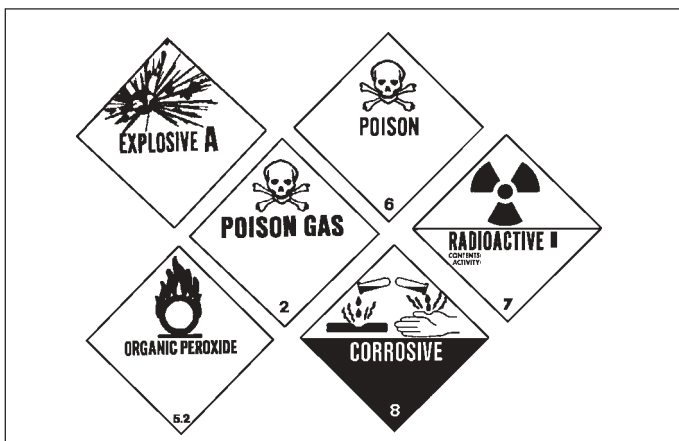

Figure 2-16
- The shipping paper describes the hazardous materials being transported. Shipping orders, bills of lading, and manifests are all shipping papers. Shippers put diamond-shaped hazard warning labels on most hazardous materials packages. These labels inform others of the hazard. If the diamond label won't fit on the container, shippers put the label on a tag. For example, compressed gas cylinders that will not hold a label will have tags or decals. Labels look like the examples shown in Figure 2-16.